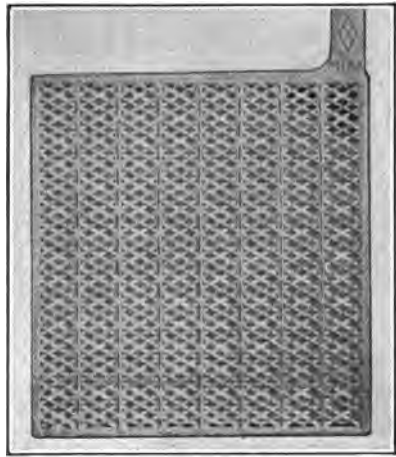

Fig. 382. Lead Grid Ready for Active Material
**Parts of Cell. Elements.** These are known as the positive and negative plates and correspond to the positive and negative electrodes of a primary battery. They consist of a foundation composed of a casting of metallic lead in the form of a grid, the outer edges and the connecting lug being of solid lead, while the remainder of the grid is like two sections of lattice work so placed that the openings do not correspond. Every manufacturer has different patterns of grids, but this description will apply equally well to all of them. Fig. 382 illustrates the grid of the Philadelphia battery. The object in giving them this form is to make the active material of the plates most accessible to the electrolyte, or solution, of the battery, and at the same time to insure retaining this active material between the sides of the grid.